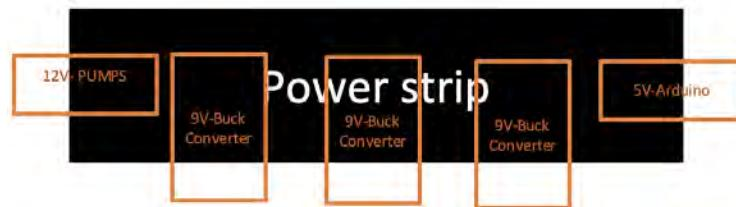
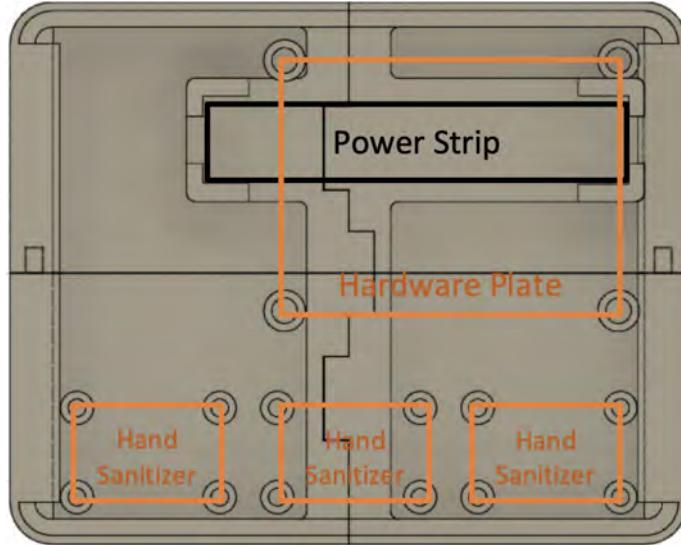

Fig. 51 (Power strip layout)
Fig. 52 (Base Plate layout)
10. Mount Hardware mount, Power strip, and Hand sanitizer mounts- Arrange power sources on the power strip as seen in (Fig. 51). Mount the 3 Hand sanitizer mounts, hardware mount, and power strip onto the Base plate mounts as seen in (Fig. 52). Secure with super glue.